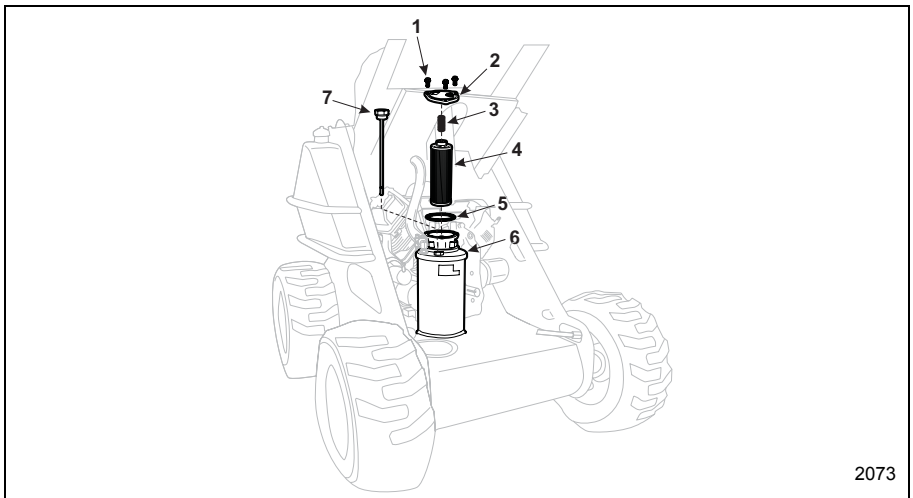

Figure 4–13 Hydraulic Oil Filter Assembly
- c. Remove the filter element (Item 4, Figure 4–13) and replace with a new filter element.
- d. Inspect the filter cover O-ring (Item 5, Figure 4–13) for any signs of wear or damage. Replace as needed.
Using the hydraulic oil level dip stick (Item 7, Figure 4–13), check the hydraulic oil level. Add the appropriate hydraulic fluid as needed.
- a. Raise the machine off the ground and support it using a device capable of safely supporting 3000 lbs. See Figure 4–14 for suggested location of the support devices.
- b. Tilt the bucket downwards until the cutting edge is touching the ground. See Figure 4–14.
- d. Measure the gap between the bottom of the center bogey guide roller (Item 1, Figure 4–14) and the track. The proper tension will be about a 3/8" - 1/2" deflection.